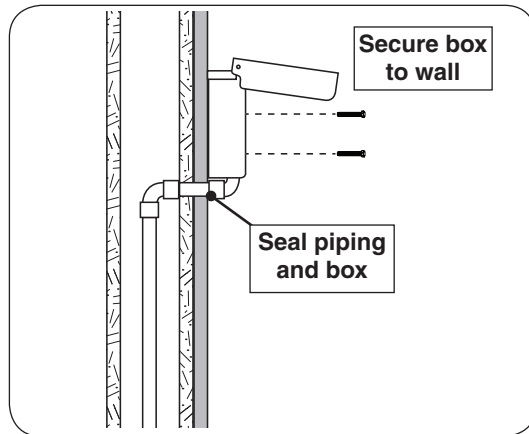

Fig. 2-2 Install stainless steel box
4. Secure the box to the wall using the mounting holes provided on the rear wall of the box assembly and appropriate mounting hardware for your construction (not included). See Fig. 2-2.